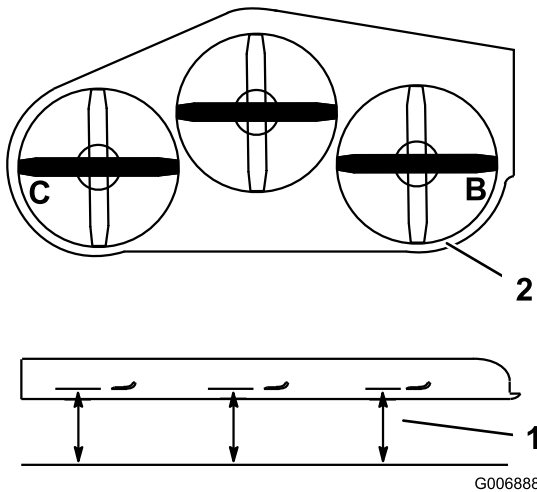

Figure 85
4. Measure at the **B** and **C** locations from a level surface to the cutting edge of blade tips (Figure 85).